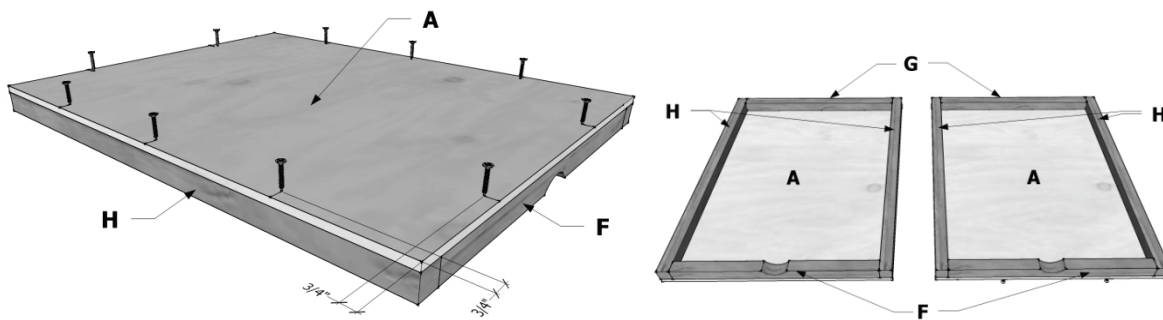

Fig. 2 – Fastening diagram for cap and base (A). 2x2s flush with edge, spacing screws evenly.
- a. **Cap & Base:** **Using 16) 1 5/8" screws, fasten** all 25" long 2x2s and 36" long 2x2s (parts F, G, H) to each of the 28"x36" panels (part A), screwing through the plywood into 2x2s. The notch on part F should be facing away from plywood. This should make 2 identical pieces: one will serve as a cap and one as the base (fig. 2) **Be careful** that sharp points are not exposed inside as this might puncture liner.
Lay Base (part A) on flat surface, 2x2s up. (like right side of fig. 2)